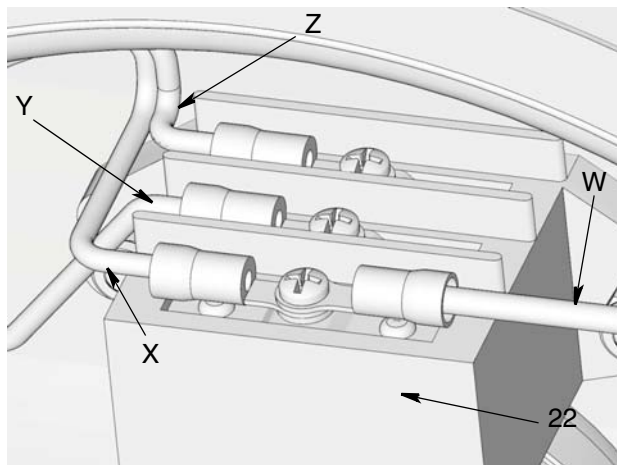

FIG. 9
3. Attach wires to slip ring brush bracket (22). Refer to Table 2 to ensure the wires are installed in the correct orientation. (FIG. 9)
4. Attach spool ground wire (W) to slip ring brush bracket (22).